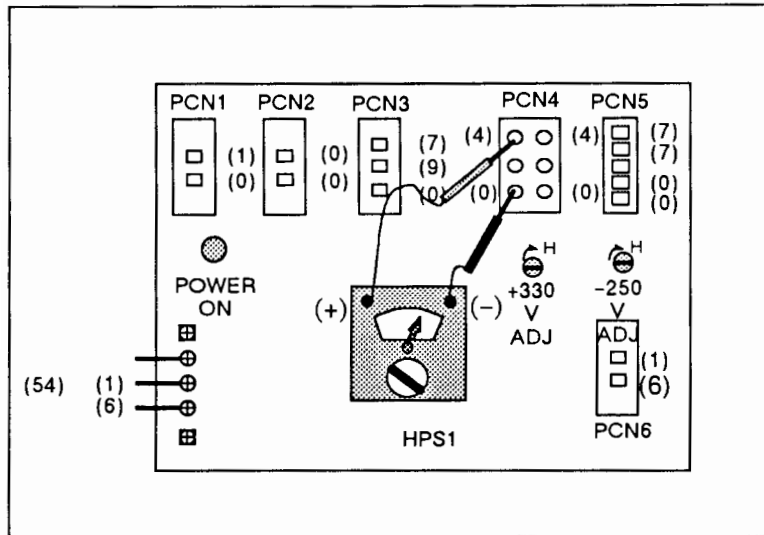

Figure 6-8. +330 V Power Supply Adjustment
- a. Set the plotter line switch to OFF (O).
- c. Disconnect the cable at PCN4. See Figure 6-8.
- f. Turn the potter line switch to ON (I).